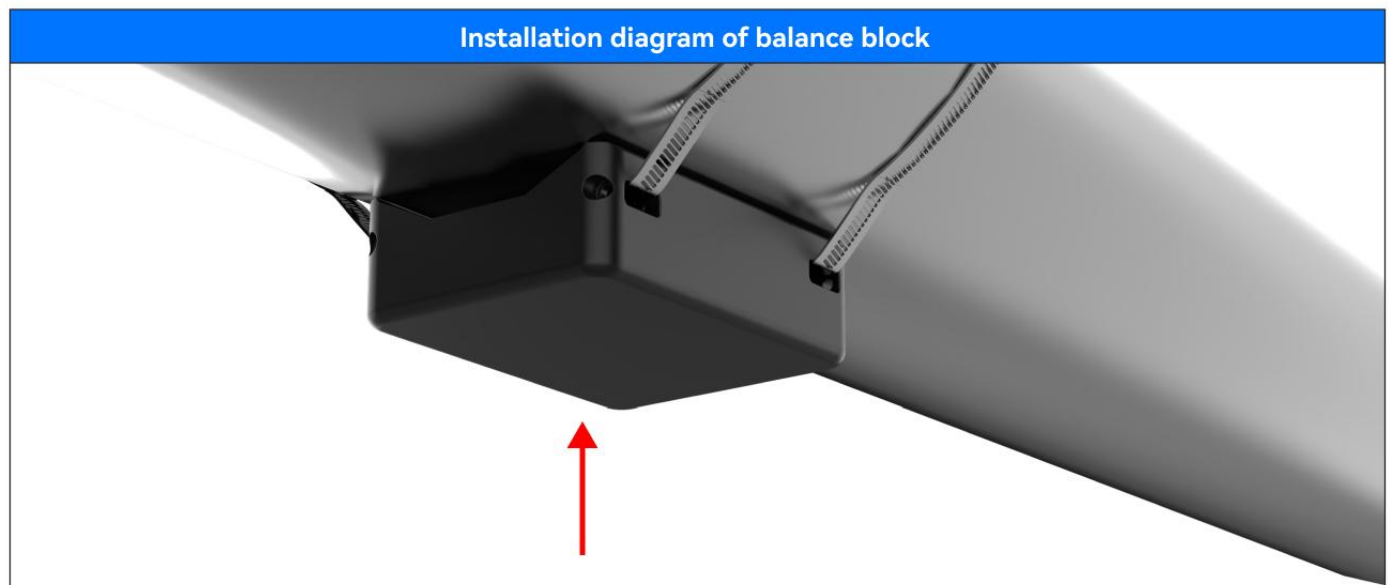

Figure 3.31
1. Place the counterweight under the shaft directly opposite the transmitter device, and use a long cable tie to temporarily fix the counterweight and transmitter in place, as shown in Figure 3.31.